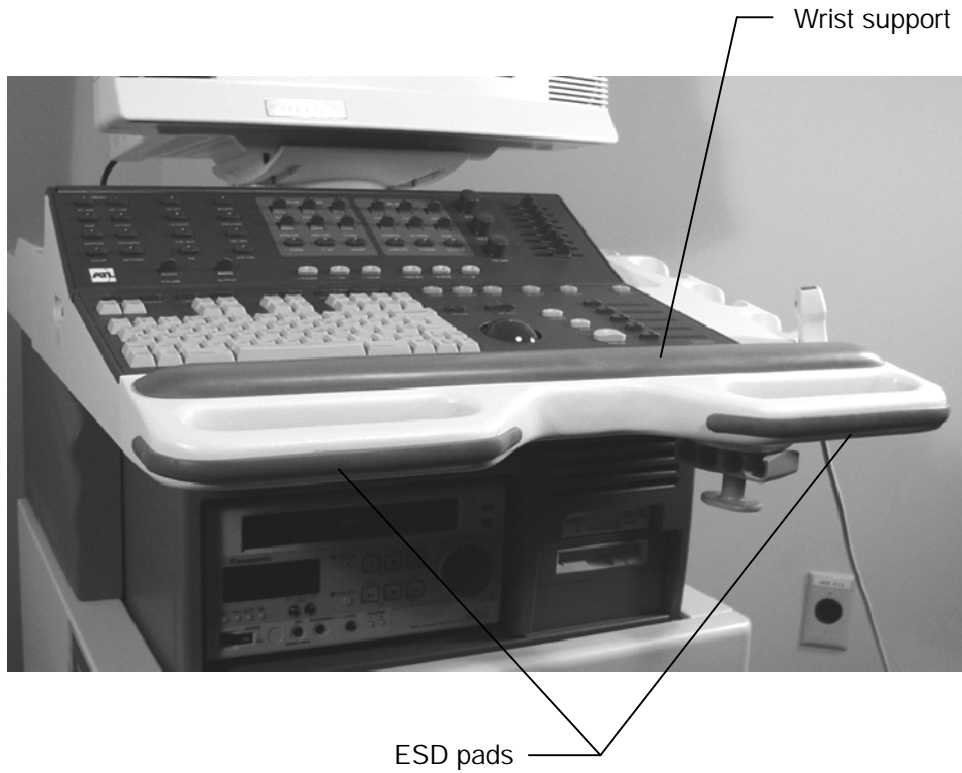

Figure 7-1. Locations of the Wrist Support and ESD Pads
- S The following precautions can help to reduce ESD: anti-static spray on carpets; anti-static spray on linoleum; anti-static mats; or a ground wire connection between the system and the patient table or bed. Additionally, any build-up of electrical energy can be dissipated by first touching the gray, rubber ESD pads provided on the system handles and wrist support of the system keyboard, before using the system (Figure 7-1).